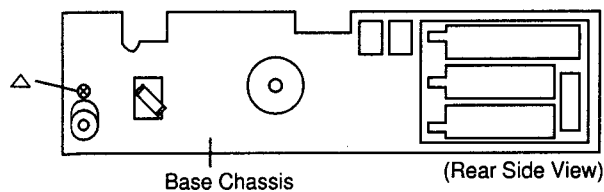

Figure 3
- (2) Remove a screw marked "△" as shown in Figure 3.